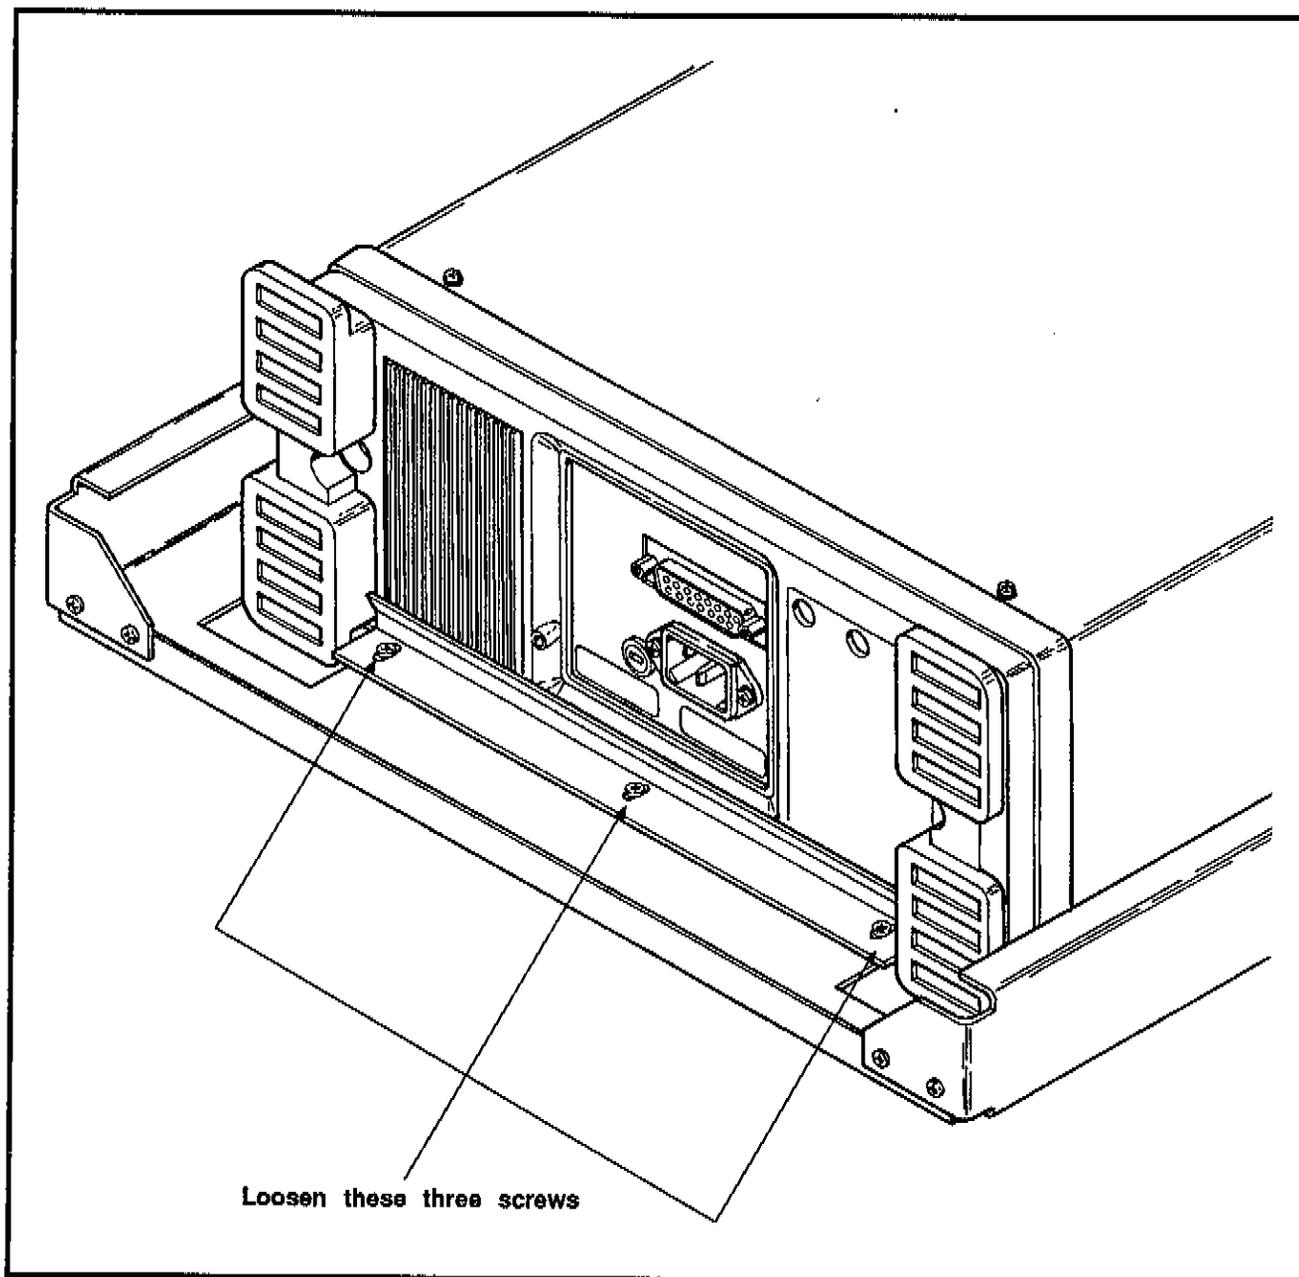

Figure 6-9. Rear of cradle-mount showing retaining bar and three securing screws.
3. On the rack adapter, loosen the three screws shown in Figure 6-9, and slide the retaining bar back.
6. Push the rack adapter retaining bar forward to hold the Spectrum Analyzer in the cradle, then tighten the three screws (Figure 6-9).